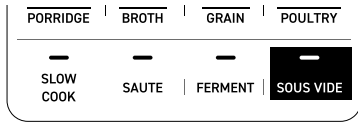

Figure 8.2
4. Select **SOUS VIDE** and press the **-** or **+** buttons to adjust the time. [Figure 8.2]